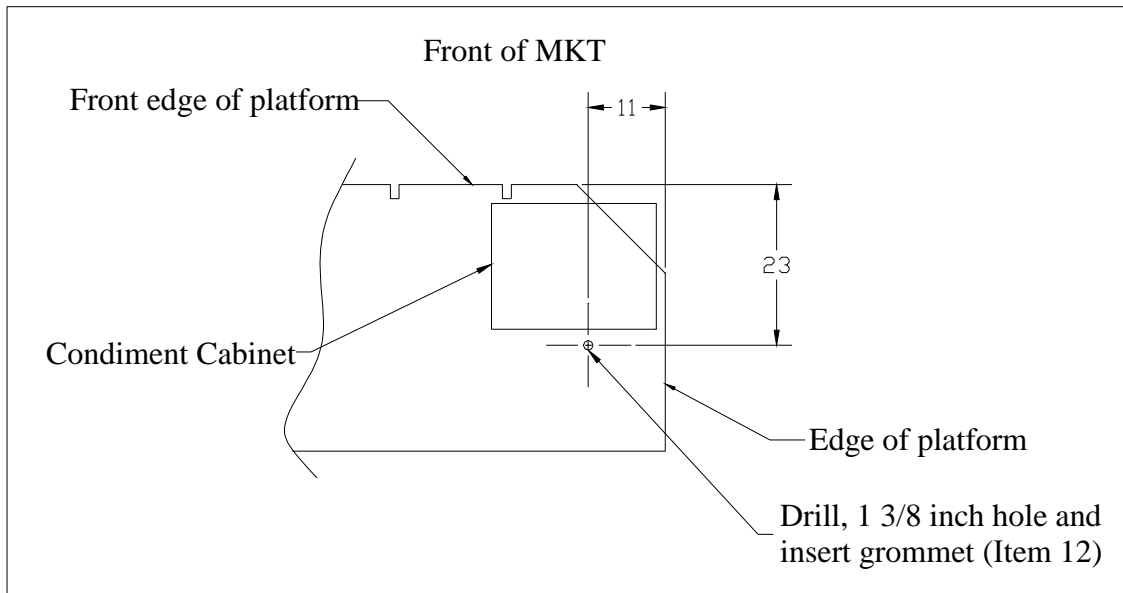

Figure 5. Location of cable pass through hole in platform near condiment cabinet.
2) Drill a 1 - 3/8 inch hole in the aluminum platform deck in the position shown in Figure 5 and insert grommet (Item 12) in hole.